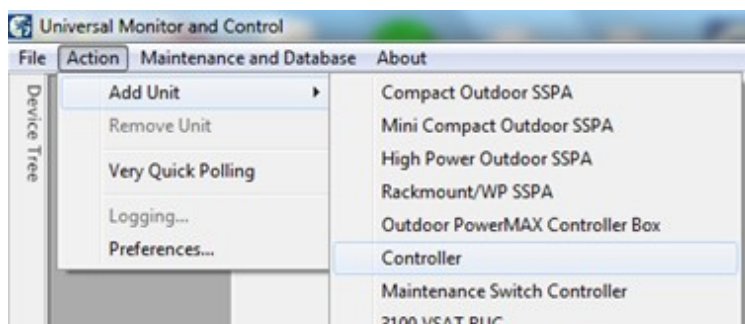

Figure 7-1: Select Action > Add Unit > Maintenance Switch Controller
1. With the system operating, select the Action pull-down menu, select Add Unit, and select Maintenance Switch Controller. See **Figure 7-1**.